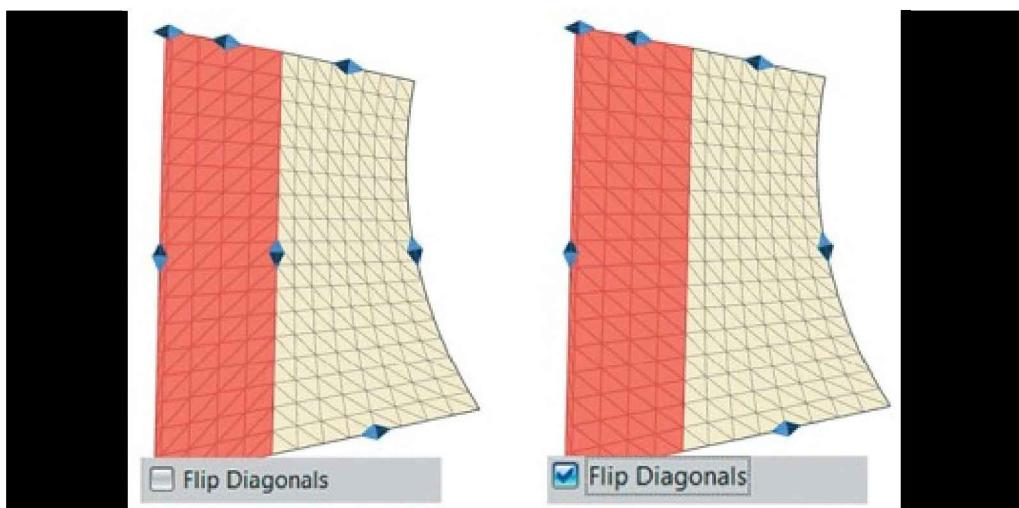

Figure 3.27. Flip Diagonals
- Select *Flip Diagonals* to flip the diagonals of triangular elements (Figure 3.27).